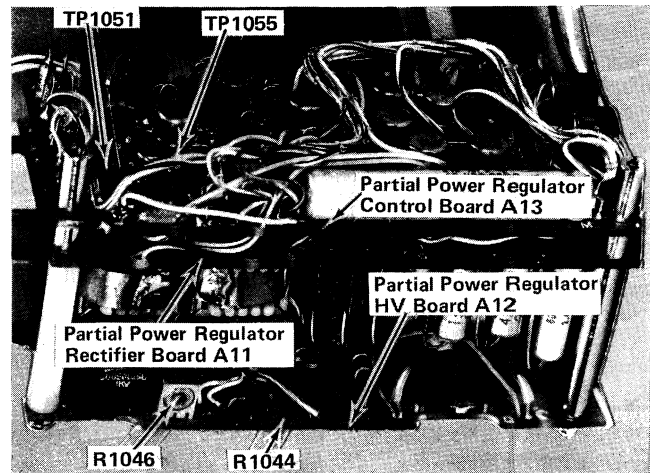

Fig. 5-8. Intensity limit adjustments and test points.
a. Connect a precision DC Voltmeter between TP1051 and TP1055 (See Fig. 5-8). Set TIME/DIV switch to  $1\ \mu\text{s}$ .